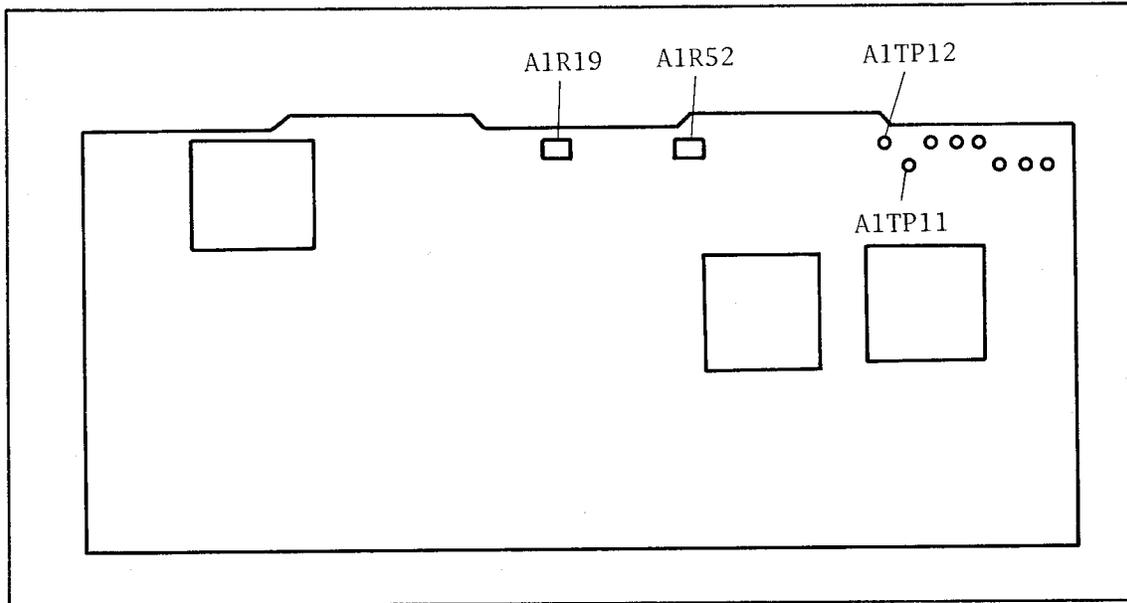

Figure 1-3. Switching Frequency Adjustment Locations
5. Connect the probe's ground lead to A1TP12. Connect the probe tip to A1TP11. Figure 1-3 shows the access and the adjustment locations.